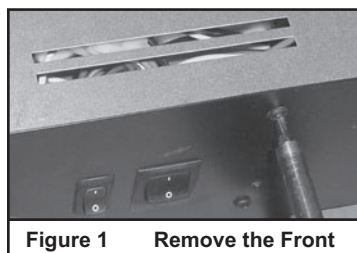

Figure 1 Remove the Front
- Remove the four screws around the controls on the control panel. See Figure 1.